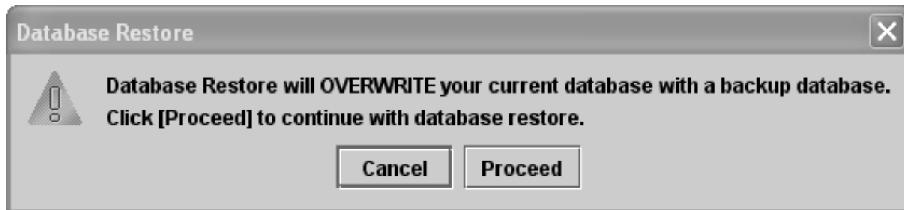

Figure 5-47. Database Restore confirmation dialog box
2. Click **Proceed**. The Database Restore confirmation dialog box appears (Figure 5-47).